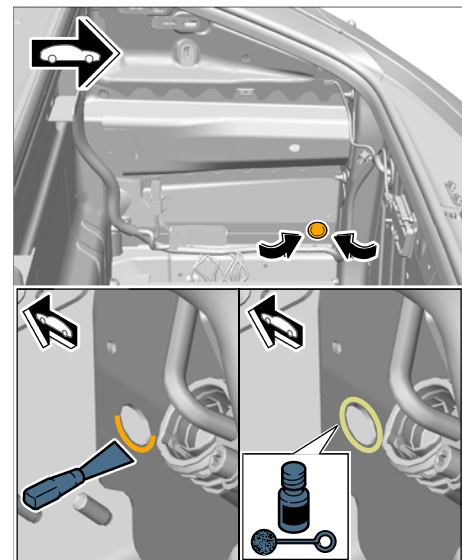

Figure 19
- 6.1 Press locking lug on the stoppers from the inside of the luggage compartment to the outside using a suitable tool ⇒ *Figure 19 -arrows-*.